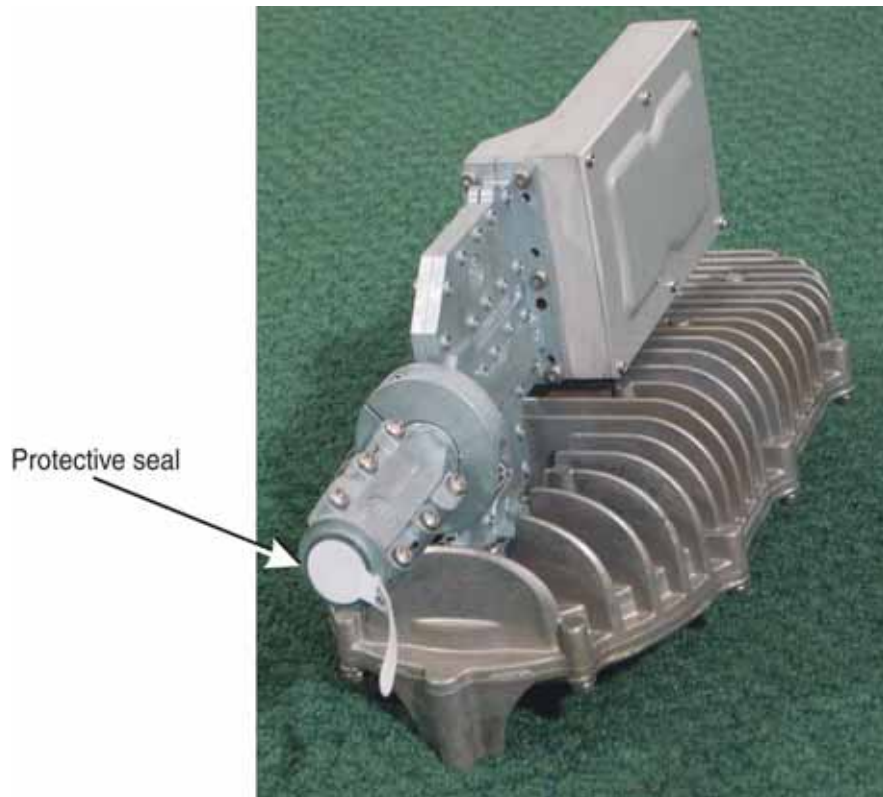

Figure 22: Remove the protective seal from the polarizer
1. Remove and discard the protective seal from the polarizer on the radio assembly (shown in Figure 22).